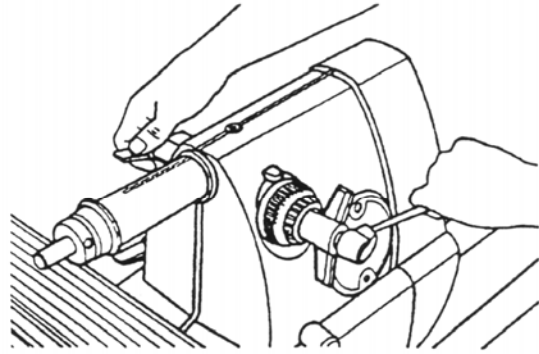
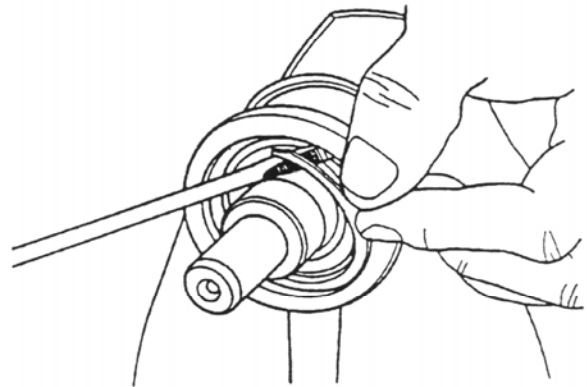
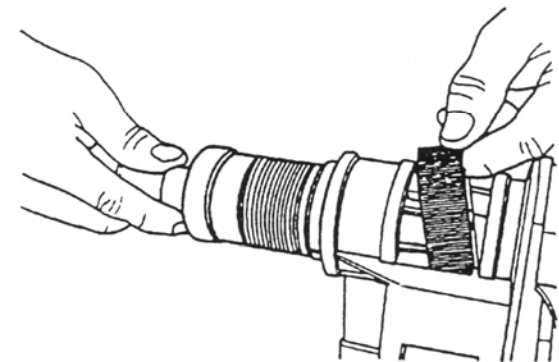

Fig. 13
Fig. 14
Fig. 15
5. Remove the drive sleeve assembly. Advance the quill feed as far as it will go, and secure the quill lock to keep it from retracting. See Fig. 13. With a small blade screwdriver, pry out the retaining ring that holds the drive sleeve assembly in the headstock. See Fig. 14. Take hold of the upper auxiliary spindle and pull the assembly from the headstock. See Fig. 15. Be sure the Poly V-belt is loose and doesn't catch on the drive sleeve assembly as you pull it free.